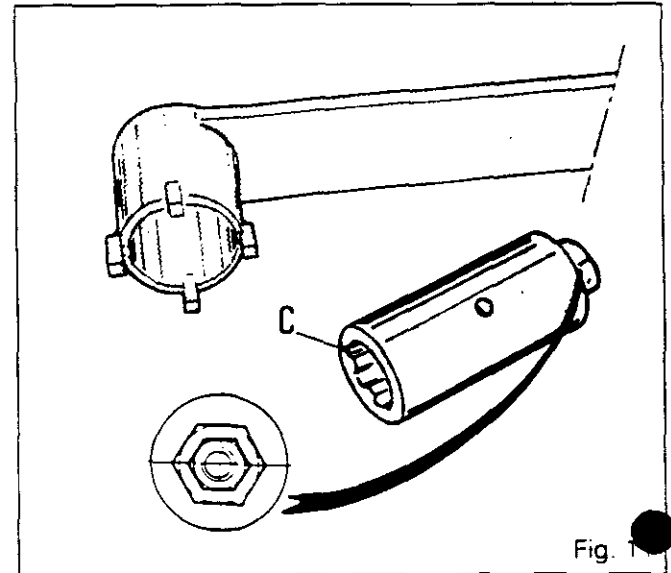

Fig. 11
37. Unstake the nut (1) and maintain it using the special spanner (Fig. 11 - 12) :
Untighten the bevel drive pinion clockwise using the special sleeve "C" (Fig. 11) locally manufactured (see section M).